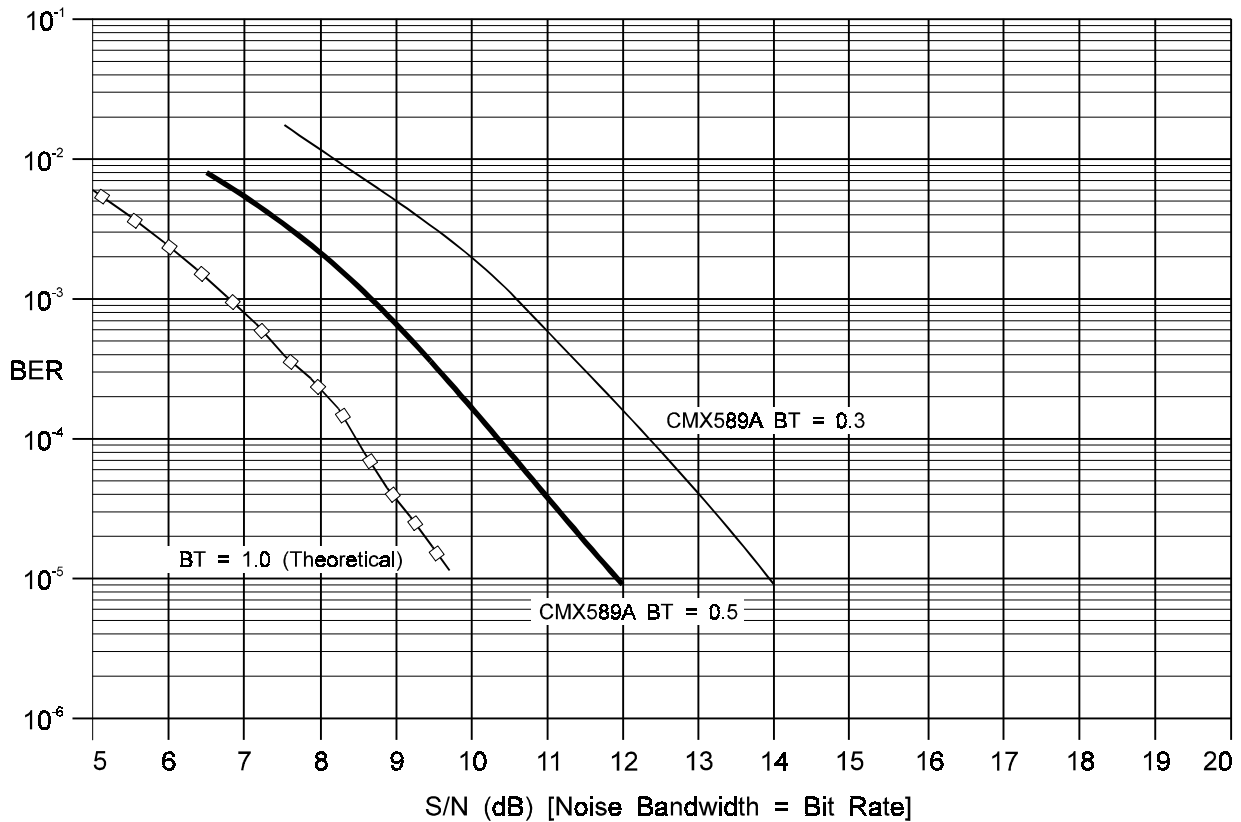

Figure 6: Typical Bit-Error-Rate Performance at  $V_{DD} = 5.0V$
**Note:** Figure 6 indicates typical performance, independent of bit rate (although the applied noise bandwidth is considered to match the bit rate used), radio performance (e.g. IF filter distortion), supply voltage (higher bit rates require  $V_{DD} \geq 4.5V$ ), and other 'real world' factors.